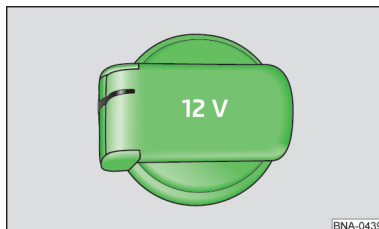

Fig. 52
► To use, open the cover of the socket » fig. 52 and plug the electrical appliance plug into the socket.